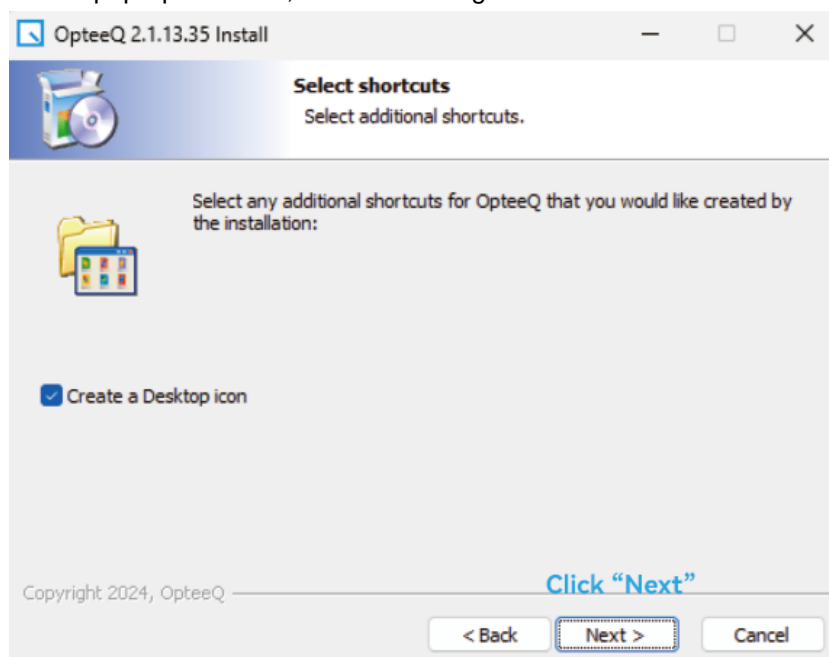

Figure 1.6 Step6
Step 6: Click "Next" in the pop-up interface, as shown in Figure 1.6.